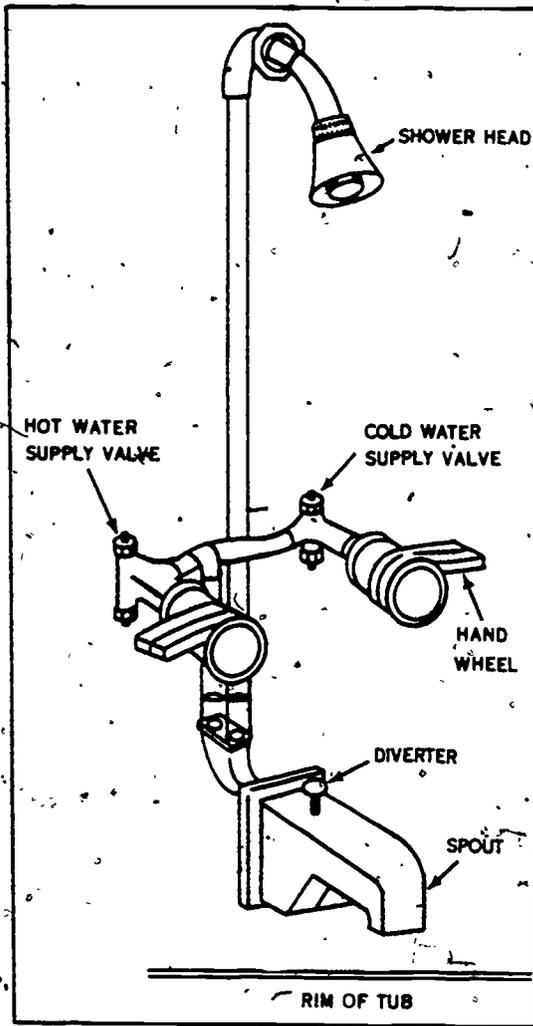

Figure 2-23. Bathtub and shower piping arrangement.
which extend through the finished wall have a chrome finish. A typical bathtub and shower unit is shown in figure 2-23. When you make this type of bathtub and shower installation, be sure to locate the bathtub spout from 2 to 4 inches above the rim of the tub. Spacing the spout above the rim of the tub prevents siphoning of the water from the tub in case the valve is left open and the water drops at the same time. This installation prevents cross connection between potable and nonpotable water.
a. Manual mixing valve. The manually controlled mixing valve actually consists of two hand-operated valves in one body with an outlet for both valves which feeds the shower head. The valves are turned by hand to control the temperature of the water. The use of manually controlled valves requires a piping arrangement similar to the one shown in figure 2-23. This water-tempering setup does not give protection against sudden changes of temperature due to slugs of